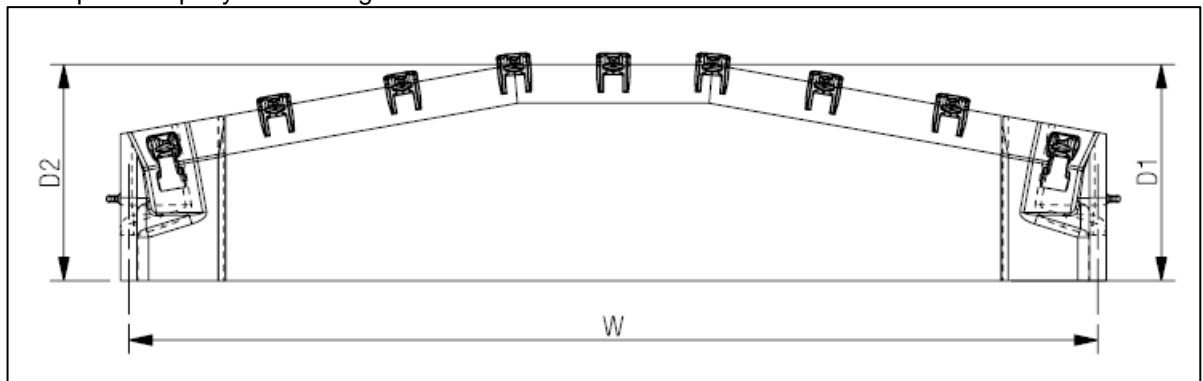

Figure 10 Wing Center inspection
2.4.3. Inspect the center to center (Wing Center -W) of the lip as shown in Figure 10. The distance must be as per the lip layout drawing.